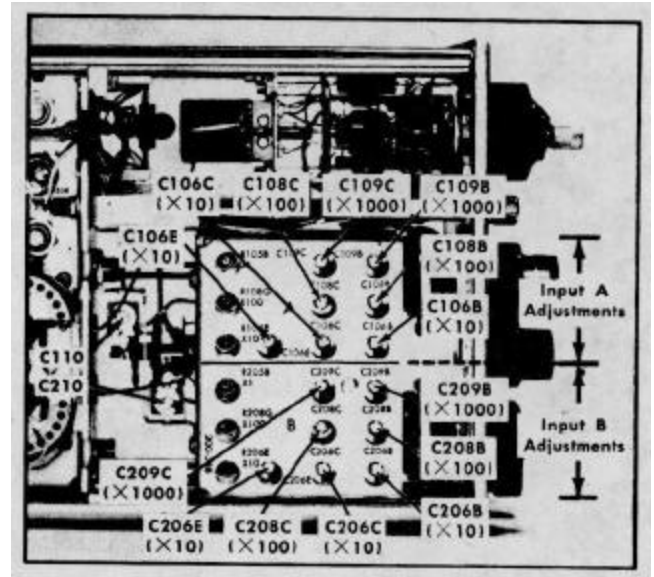
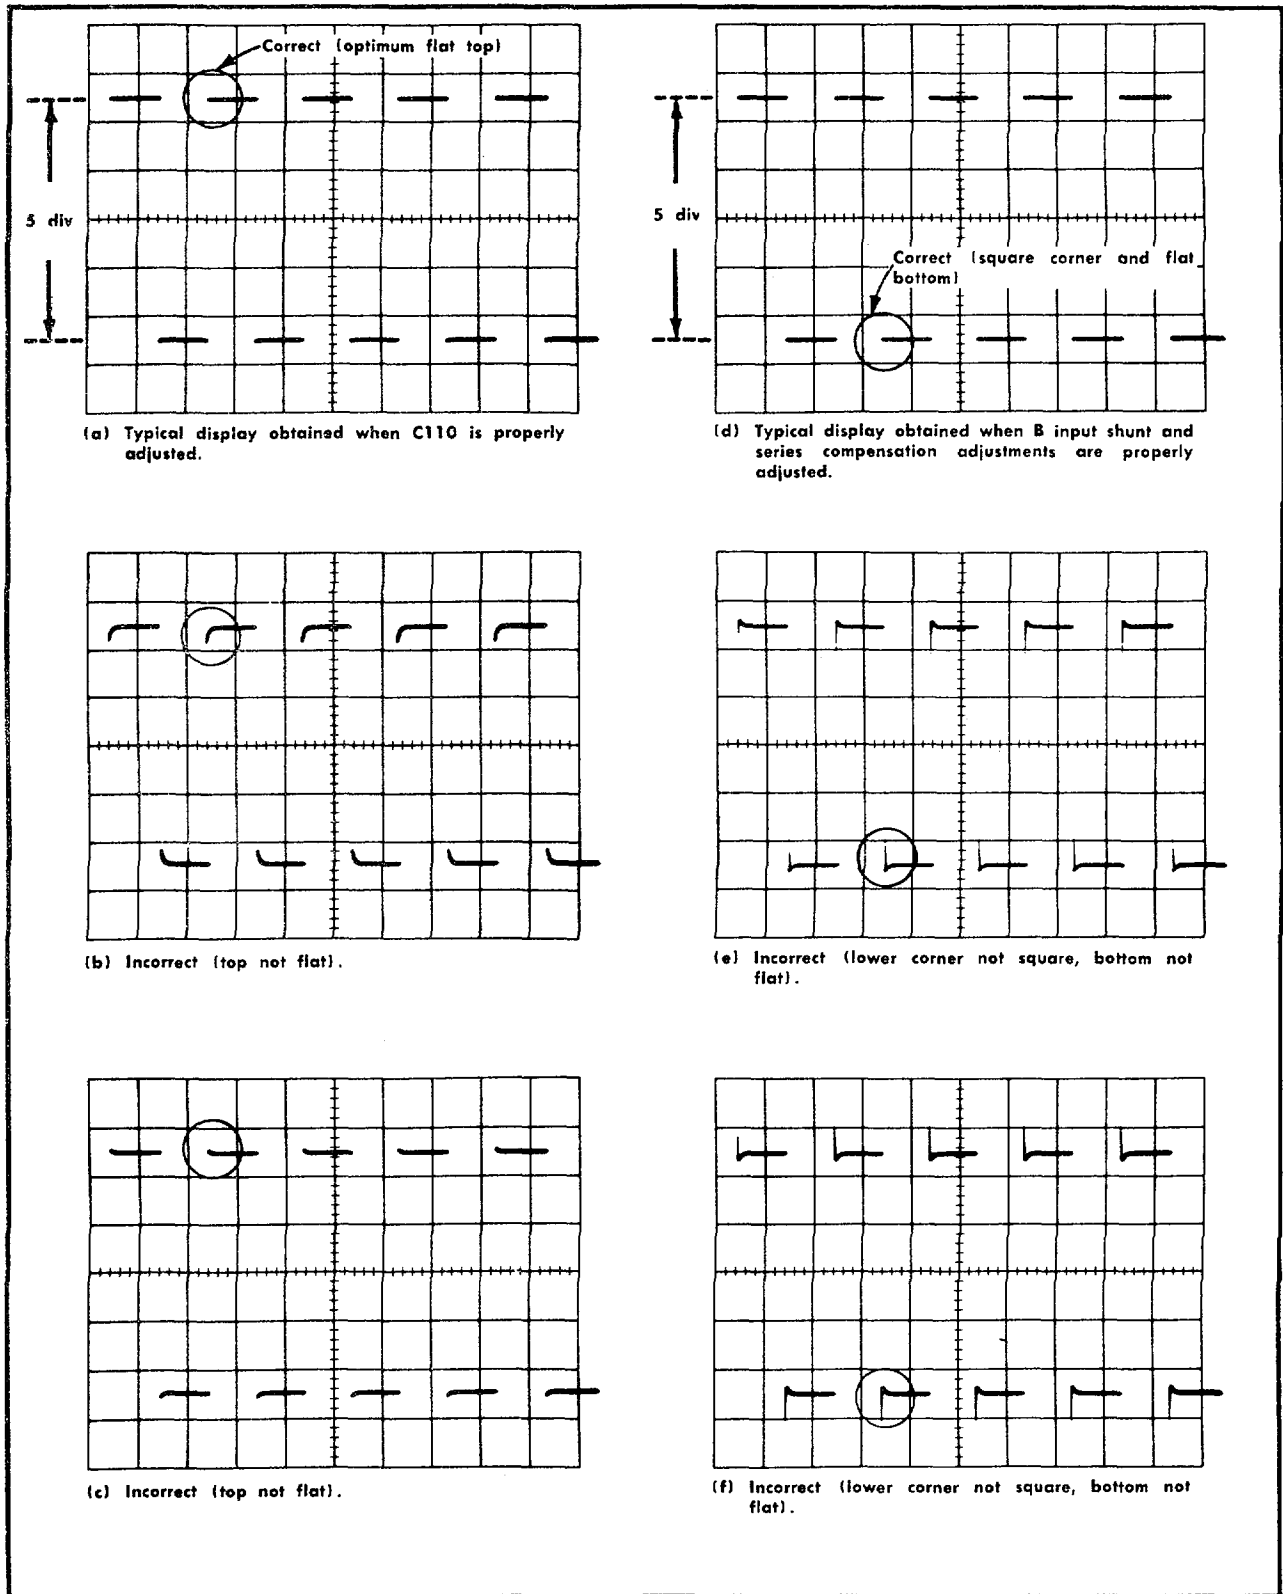

Fig. 5-41. Location of step 34 adjustments.
Fig. 5-42. Typical waveform obtained when compensating the attenuators.
d. Using Table 5-5 as a guide, start with adjustment C110 (see Fig. 5-41). Fig. 5-42a shows the correct display
1For input A, adjust waveform for best upper front corner and flat top. For input B, the waveform is inverted so adjust for best lower front corner and flat bottom. See Fig. 5-41 for adjustment locations and Fig. 5-42 for typical waveforms